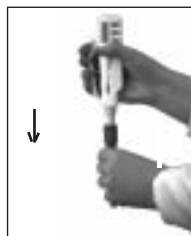

Fig. 9
1. Remove the ejection collar: Gently twist it anti-clockwise and slide off (Fig. 9). Remove filter if fitted.